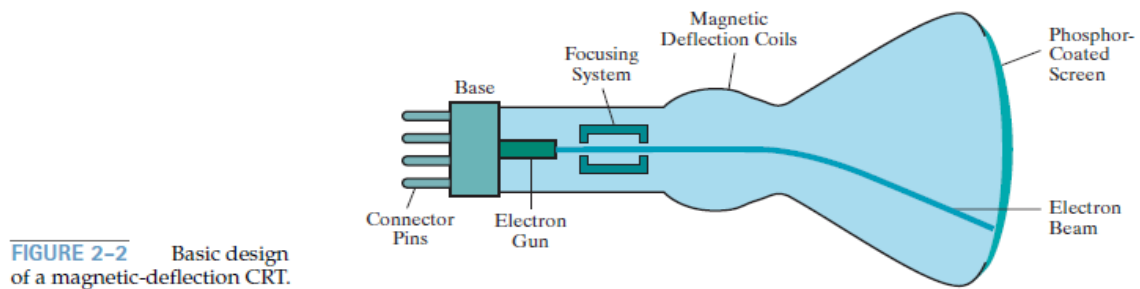

FIGURE 2-2 Basic design of a magnetic-deflection CRT.
1. Figure 2-2 illustrates the basic operation of a CRT. A beam of electrons (*cathode rays*), emitted by an electron gun, passes through focusing and deflection systems that direct the beam toward specified positions on the phosphor-coated screen.
16. As with focusing, deflection of the electron beam can be controlled with either electric or magnetic fields. Cathode-ray tubes are now commonly constructed with magnetic-deflection coils mounted on the outside of the CRT envelope, as illustrated in Fig. 2-2.